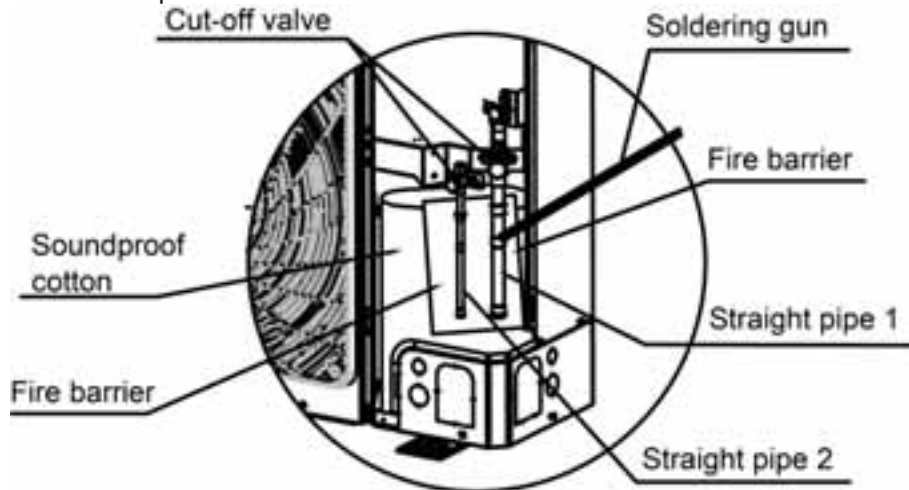
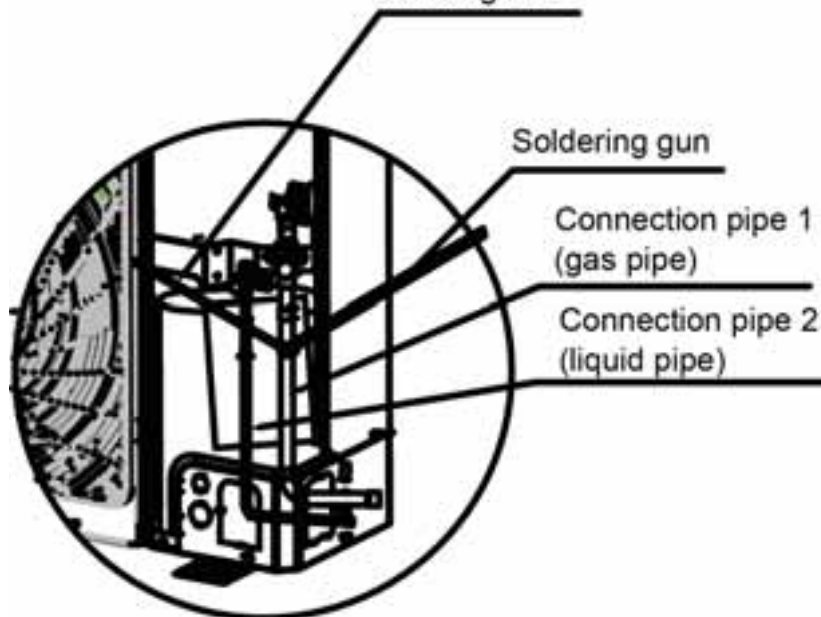

Fig. 16
Fig. 17
As shown in Fig.16 and Fig.17, open the outermost soundproof cotton and place a fire barrier between compressor and straight pipe. Use a soldering gun to unsolder straight pipe 1 and straight pipe 2. Install connection pipe 1 and connection pipe 2 to the corresponding position and then seal the apertures with welding rod. First weld the liquid side connection pipe and then weld the gas side connection pipe. During welding, it's necessary to use wet gauze to wrap up the two cut-off valves. Make sure the flame won't burn the soundproof cotton or other components.
(2) Y-type branch has several pipe sections with different dimensions, which facilitates matching to various copper pipes. Use pipe cutter to cut in the middle of the pipe section and remove burrs. See Fig. 17.
(3) Y-type branch must be installed vertically or horizontally.